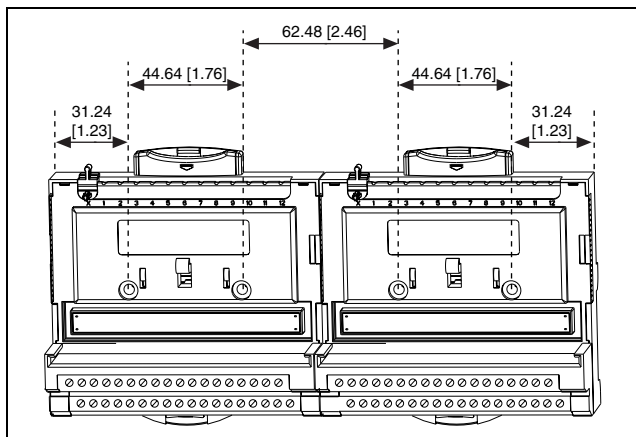

Figure 4. Locating the Mounting Holes
- Use Figure 4 to locate where to drill the mounting holes on your panel. Dimensions are given in millimeters [inches].